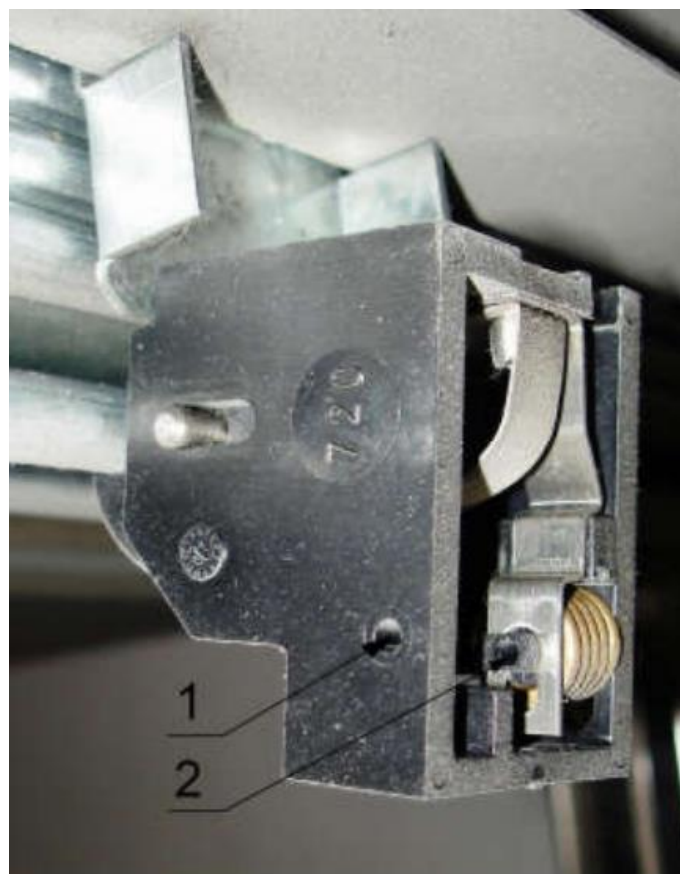

Figure 9. Electromagnetic release device cassette.
- In the releasing cassette, push the wire, respectively, through openings 1 and 2 marked in figure 9. The end of the release device wire is equipped with the counter screw, which is to be demounted before assembly. Having pushed the wire through the holes, the counter screw is locked again.